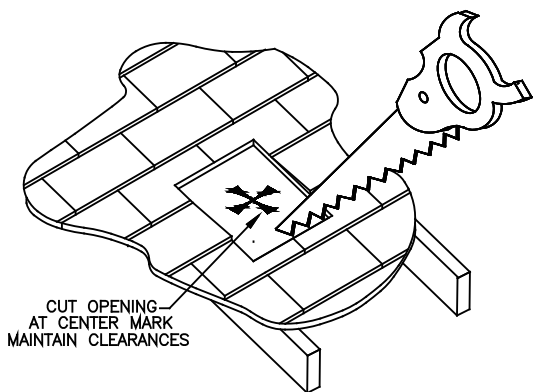

Figure 29
5. Remove shingles or other roof covering as necessary to cut the rectangular hole for the Support Box. Cut the hole 1/8-inch larger than the dimensions of the Support Box (**Figure 29**). The rectangular hole should be centered on the small hole which you drilled through the ceiling to mark the location. Again, verify that you are not cutting through rafters or framing members.